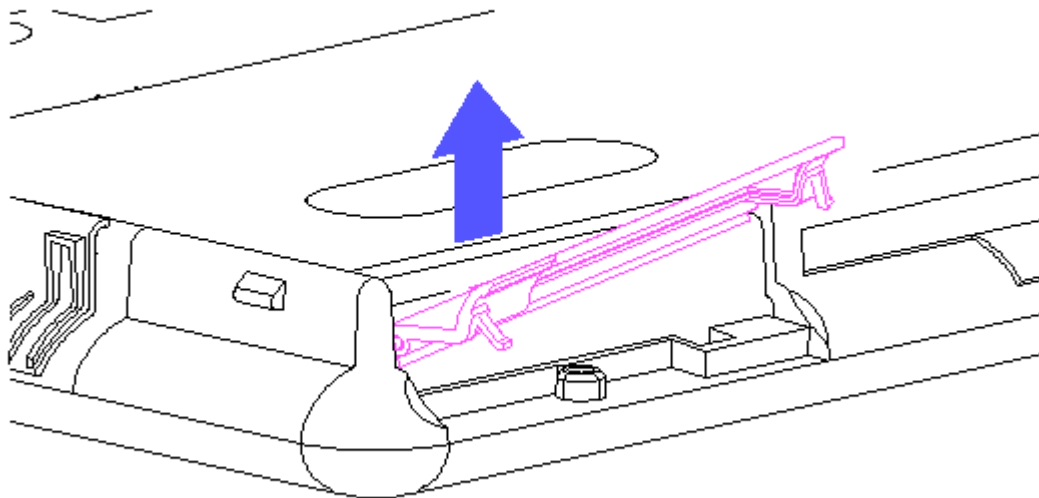

Figure 3-22. Installing the PCMCIA Door
4. To install the PCMCIA door, engage one end on its pivot post and snap the other end into place (Figure 3-22). Replace the screw in the door if applicable.